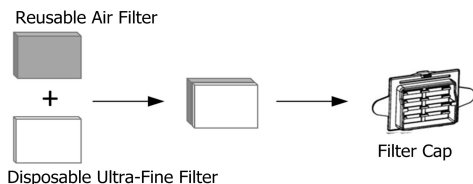

Fig. 18-5
- (2) If using the optional disposable ultra-fine filter, remove the filter cap and remove the disposable ultra-fine filter. To install a new disposable ultra-fine filter, place the reusable air filter into the filter cap first, then place the disposable ultra-fine filter on top. The disposable ultra-fine filter must be positioned closest to the device, as shown in Fig. 18-5.